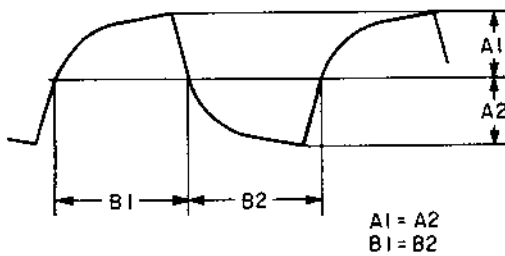

Fig. 2-26
- c) Adjust TC1 so that the positive and negative part of waveform is equal as shown in Fig. 2-26.